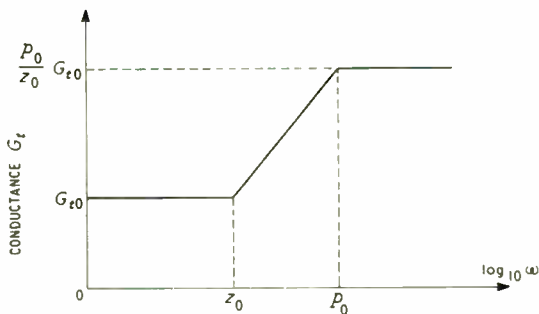

Fig. 4. Approximate straight line representation of conductance  $G_t$
and so Equation (9) corresponds to the approximate straight line characteristic of Fig. 4. Further, the admittance  $Y_t$  of Equation (8) corresponds to the pole-zero map of Fig. 5 and, therefore, the admittance  $Y_t$  can be realized as a resistance-capacitance network. The admittance  $Y_t$  is a minimum susceptance one in that its susceptance characteristic can be determined from its conductance characteristic and vice versa.